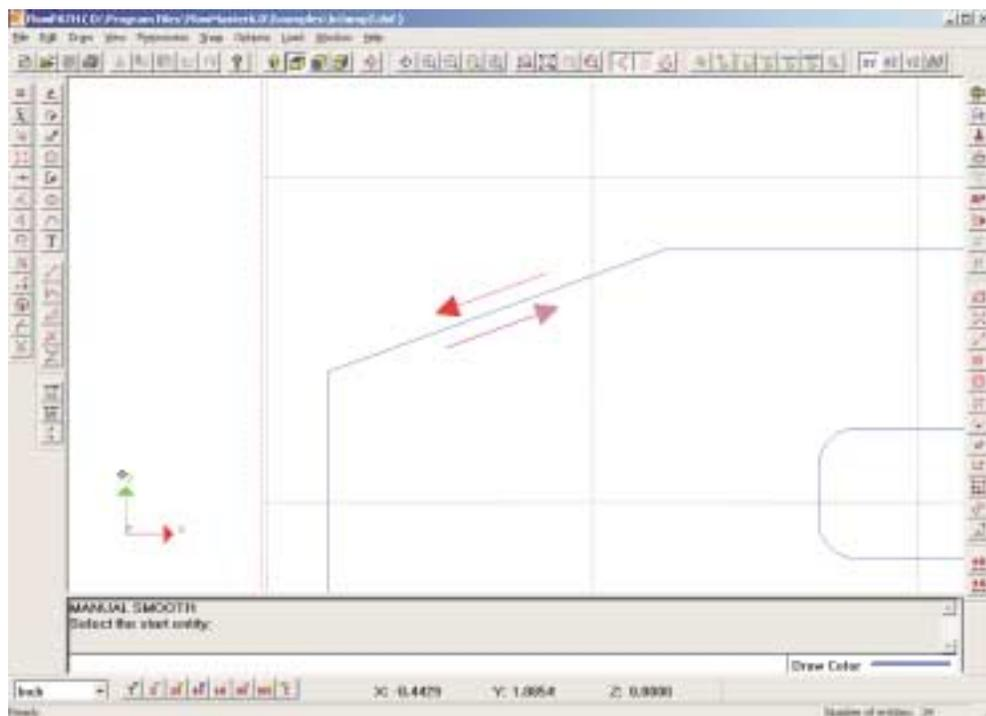

Figure 23. Example of smoothing direction arrows
- Click a starting entity. FlowPATH zooms in on the selected entity and displays two direction arrows (see Figure 23).